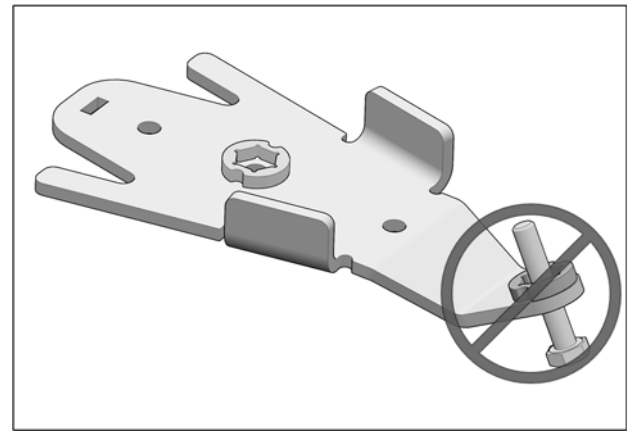

Fig. 14
**CAUTION:** Be sure that bolt is inserted in the right direction. See Fig. 14